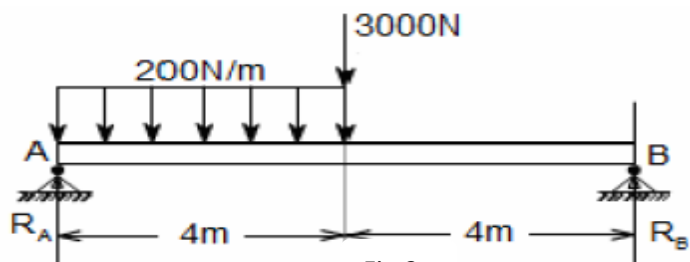

Fig.3
- b. i. A loaded beam is as shown Fig. 3 below. Draw its S.F and B.M diagram.